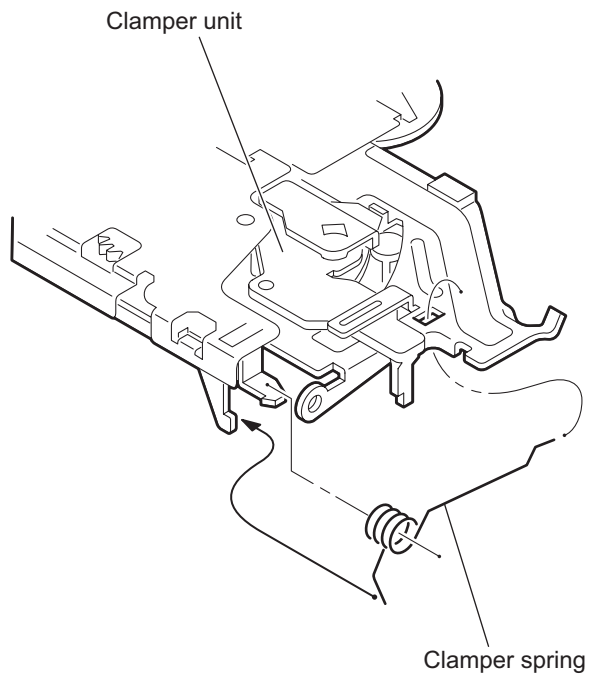

Fig.8
- Attach the clamper spring to the clamper unit. (See Fig.8.)
When reattaching, temporarily hook the end of the clamper spring as shown in the figure to make the work easy. (See Fig.8.)